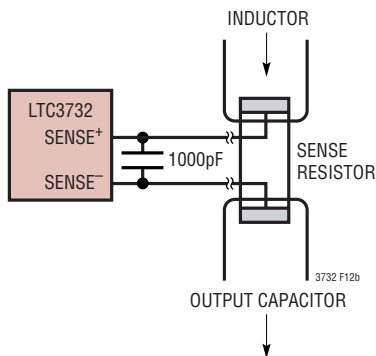

Figure 12. Kelvin Sensing  $R_{SENSE}$
3) Are the SENSE- and SENSE+ printed circuit traces for each channel routed together with minimum PC trace spacing? The filter capacitors between SENSE+ and SENSE- for each channel should be as close as possible to the pins of the IC. Connect the SENSE- and SENSE+ pins to the pads of the sense resistor as illustrated in Figure 12.